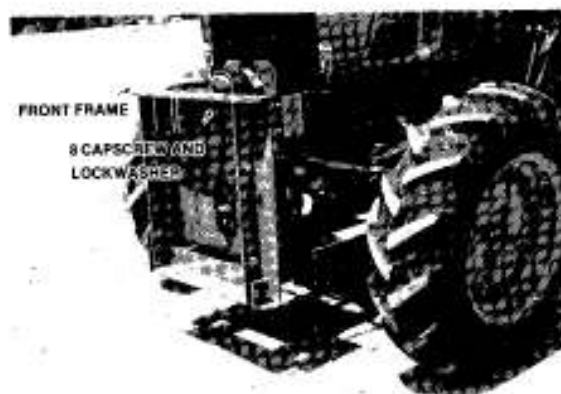

FIG. 5
- (d) Mount front frame to tractor using eight 10 mm x 20 mm capscrews and lockwasher through tapped holes in cross piece. Secure frame to right and left hand side frames using two 1/2 - 13 x 1 1/4" bolts, lock washers and nuts. Tighten all bolts securely. (See fig. 5).
- (a) Fasten the front shield in place (see fig. 5). Note that the receptacle for the upper shield must be at the bottom.